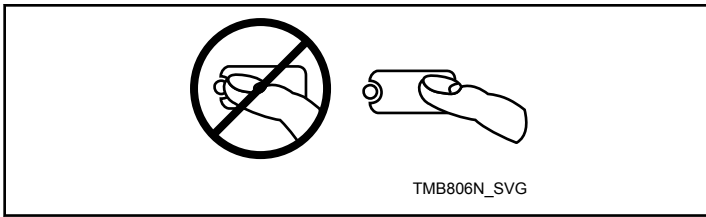

Figure 36
**NOTE: Do not press directly on lights or the center of pad. For proper selection, press on pad slightly to the right of center. Refer to Figure 36 .**